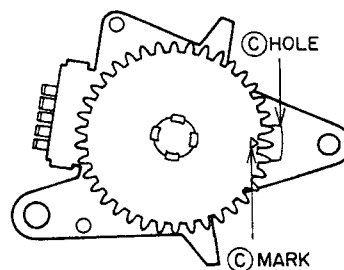

Fig. 3-14
1) Set the MODE SELECT SWITCH's gear, so that the Ⓒ mark is in the center of the Ⓒ hole as shown in Fig. 3-14.